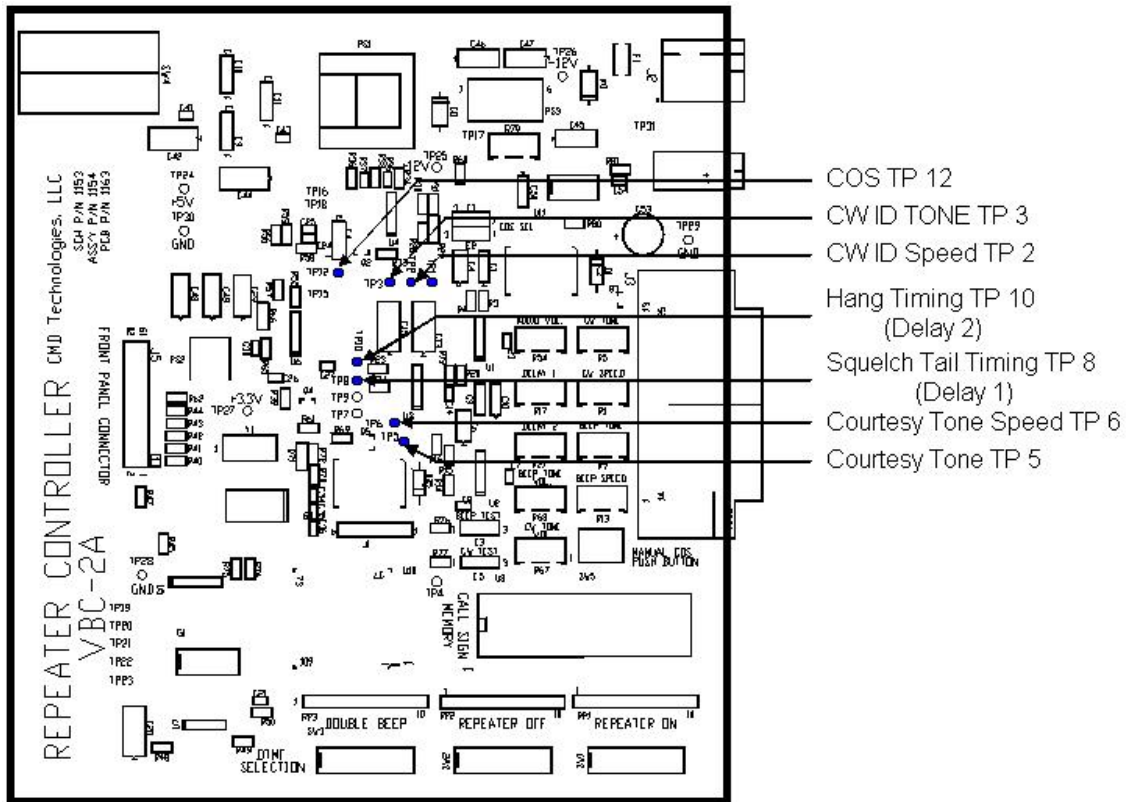

Figure 2
Test point 5 (TP 5) (Ref. Figure 2) is associated with the Courtesy Beep Tone Oscillator. This frequency range is between 570 Hz to 2.8 KHz. The Courtesy Tone increases with clockwise (CW) rotation of R9. Counterclockwise (CCW) rotation will decrease the frequency of oscillation.
Test point 6 (TP 6) (Ref. Figure 2) is associated with the Courtesy Beep Speed. Speed of the courtesy beep is the time with which the tone of the courtesy beep is audible. Clockwise (CW) rotation of R13 will increase the oscillator frequency. Counterclockwise (CCW) rotation will decrease the frequency of oscillation.
Test point 3 (TP 3) (Ref. Figure 2) is associated with the CW ID Beep Tone Oscillator. This frequency range is between 550 Hz to 2.8 KHz. Clockwise (CW) rotation of R9 will increase the oscillator frequency. Counterclockwise (CCW) rotation will decrease the frequency of oscillation.
Test point 2 (TP 2) (Ref. Figure 2) is associated with the CW ID Speed. Speed of the CW ID is the time with which it takes to generate a DIT in Morse Code. All CW ID timing is frequency of oscillation.
Also, refer to Figures 2, 3, and 4 for positions of the potentiometers and the associated test points.